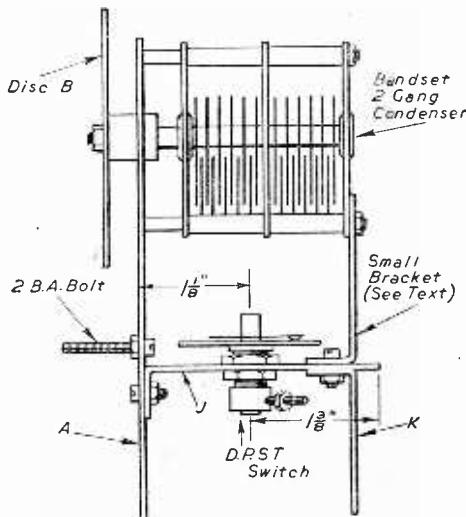

Fig. 14.—Showing how parts A, J and K are bolted together.
13. The chassis may now be assembled, whereupon it should give the appearance shown in Fig. 14. Parts A, J and K are bolted together with 4 BA nuts and bolts, using the "4 BA clear" holes available.